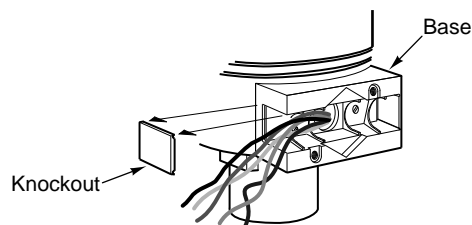

Figure-7 Removal of Knockout on Actuator Base.
2. Remove the knockout, using channel lock pliers, on the selected side of the actuator. Refer to Figure-7 .